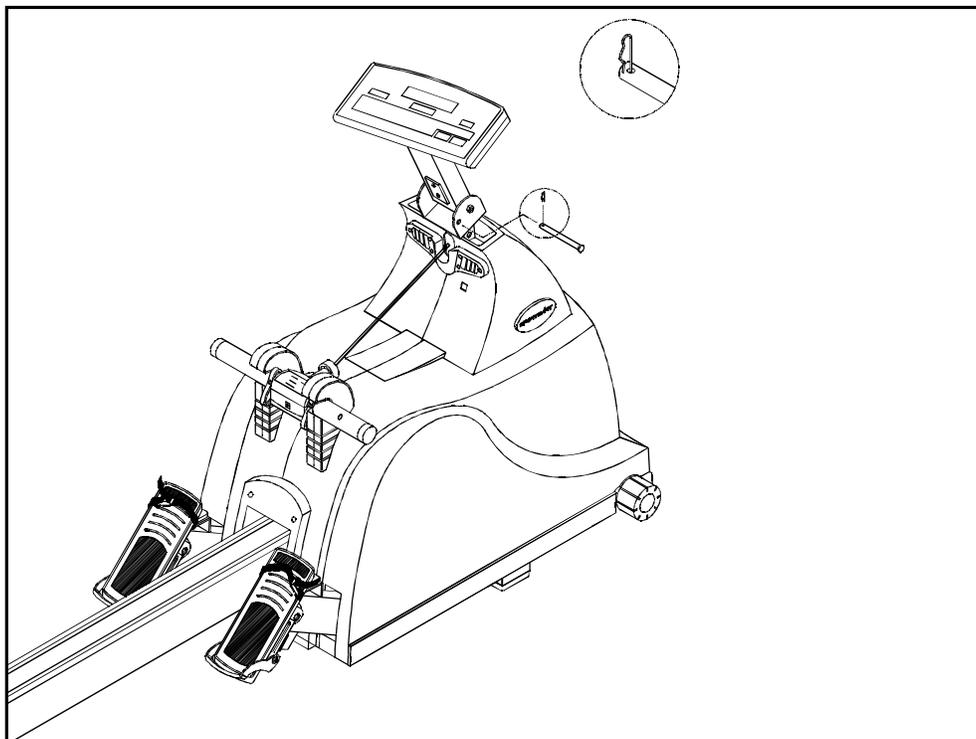

FIG.6
6. Secure the electronics package with the post and cotter pin provided (see Fig. 6).